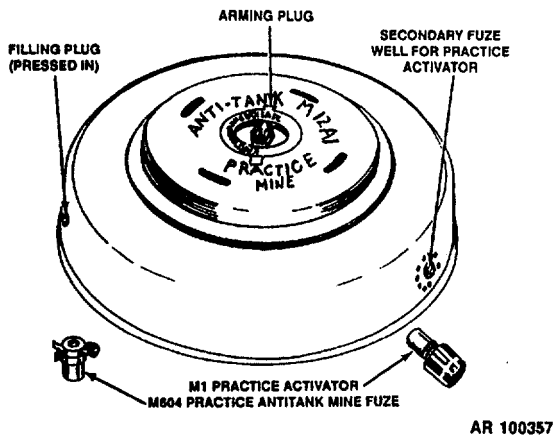

Figure 1-16. Mine, antitank, practice: heavy, M12A1, and fuze M604.
(1) Mine (fig. 1-16) is a flat, cylindrical, steel casing, approximately 3-1/2 inches high and 13-1/4 inches in diameter, similar externally to service mine M15 (except for height). It differs chiefly in having one filler hole in the side and perforations in top and around side secondary fuze well. Mine may be boobytrapped by installation of one or two secondary fuzes, each consisting of practice antitank mine activator M1 and any regular-type firing device having 9/16-inch threads. Although inert, mine has a smoke charge and primer M45 in main fuze M604. Mine is issued empty with arming plug M4 assembled, but without primary or secondary fuze. It may be loaded with sand or inert filler in the field.
(2) A minimum force of 565 ± 174 pounds depresses the pressure plate and the belleville spring of the fuze, which causes depression of the arming plate shutter (Armed position). Depression of the shutter, in turn, depresses the pressure plate and belleville spring of the fuze. Belleville spring of the fuze snaps into reverse, driving the firing pin into the igniter charge of the fuze. The igniter charge of the fuze ignites the smoke composition. The smoke composition explodes, emitting a cloud of smoke and creating a noise.